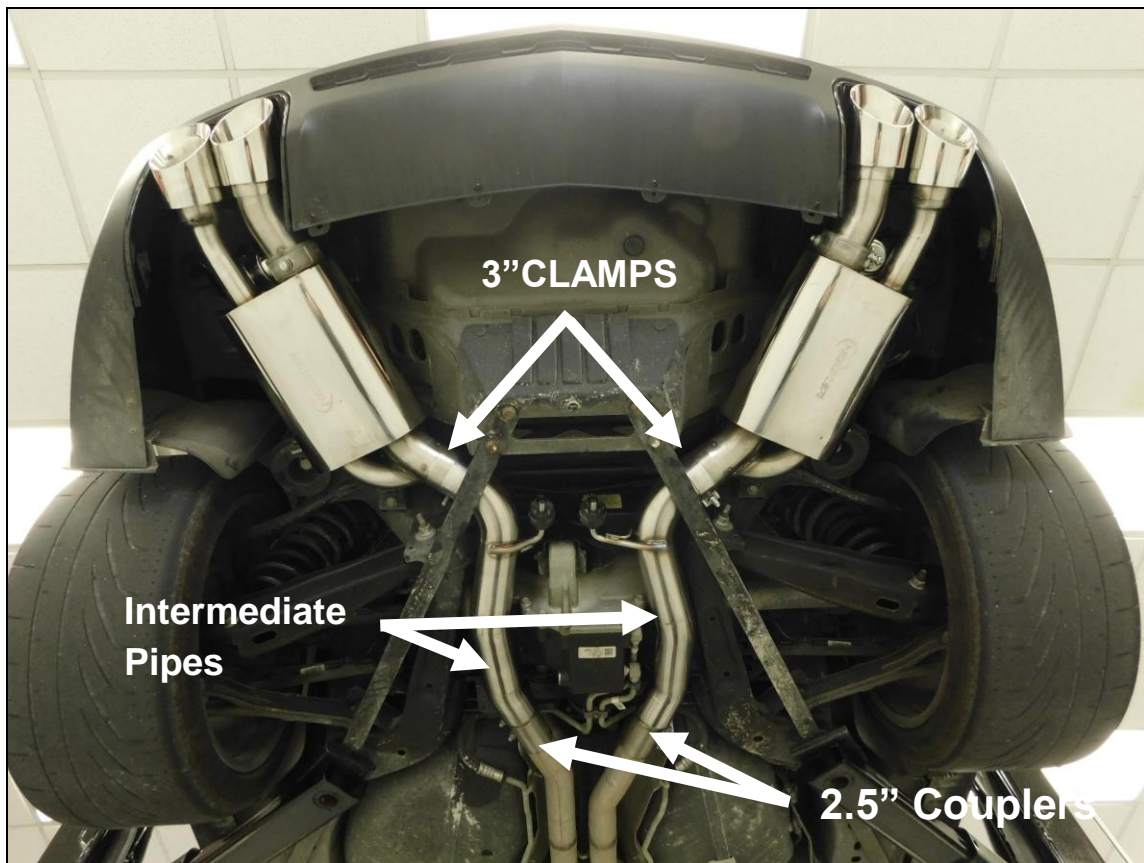

Figure 2
9. Install the supplied coupler over the OEM H-pipe with the bolts to the outside and the nuts facing down (**Figure 2**).
10. Install the Blackheart Muffler assemblies into the OEM hangers and support the mufflers (**Figure 2**).
11. Install the supplied 3" band clamp on to the expanded inlet of the muffler with the bolt to the outside and the nut facing down (**Figure 2**).